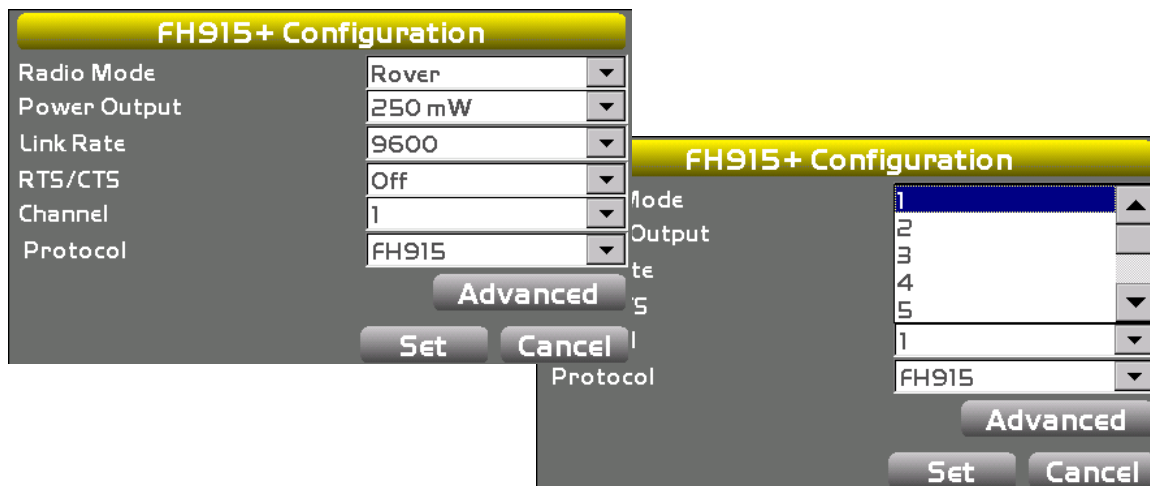

Figure 22: Setting the Channel number
- On the configuration screen, tap the **Channel** drop-down list box and select the desired channel number. The frequency of the channel changes automatically depending on the selected channel (Figure 22).